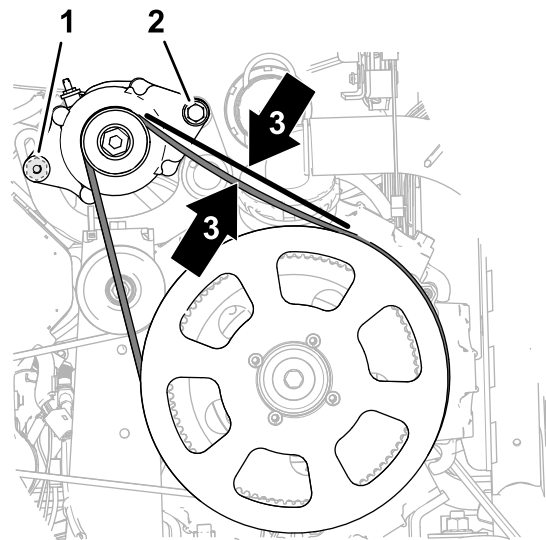

Figure 184
4. Rotate the alternator (Figure 184) up to increase tension on the belt until you measure belt 9.5 mm (3/8 inch) of belt deflection when you apply 4.5 kg (10 lb) halfway between the alternator pulley and drive pulley 279 mm (11 inch).